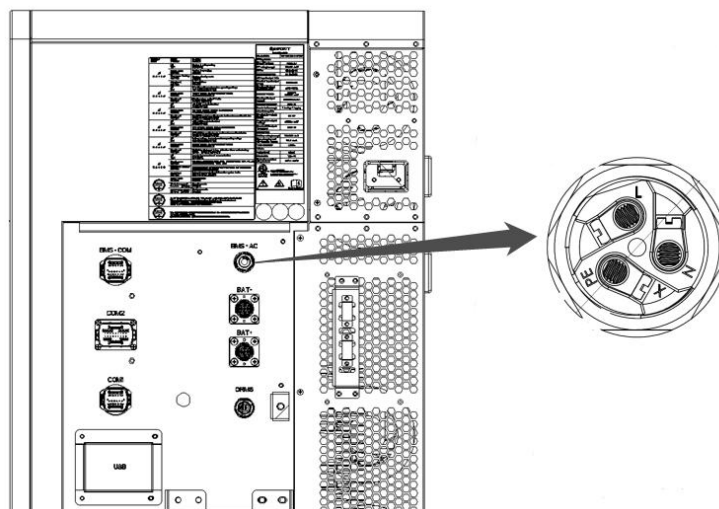

Fig 6.7 BMS-AC terminal
2. The BMS-AC terminal is a female terminal, as shown in Figure 6.7. The matching male terminals are in the accessory bag. Refer to Table 6.3 to connect the terminals;